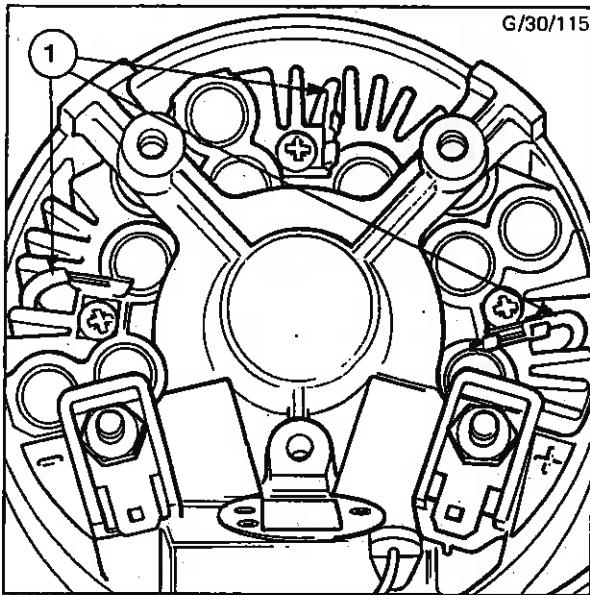

Fig. 76 - Terminating the Stator Leads
2. Hold the end shield over the stator, so that the three wide spaces on the heat sink finning coincide with the three stator leads. Carefully lower the slip ring end shield onto the stator and align scribe marks. (Refer to operation No. 6 of 'Dismantling' procedure). Insert stator phase leads (1) into heat sink tags and solder in position - see Fig. 76.